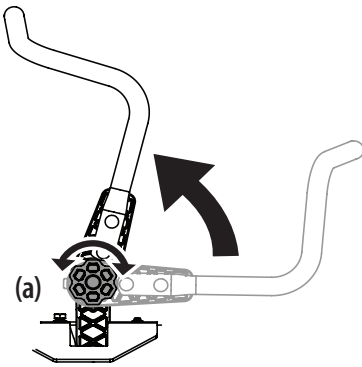

Figure 9
1. Rotate the knob (a) counter-clockwise to loosen the knob (a). See Figure 9 on page 9.
3. Rotate the knob clockwise to secure the lapbar drive control lever into position. See Figure 9 on page 9.